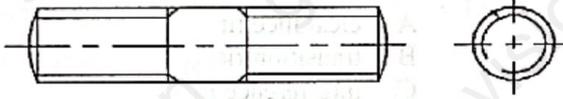

Figure 23
35. Identify the threaded fastener shown in figure 23 below